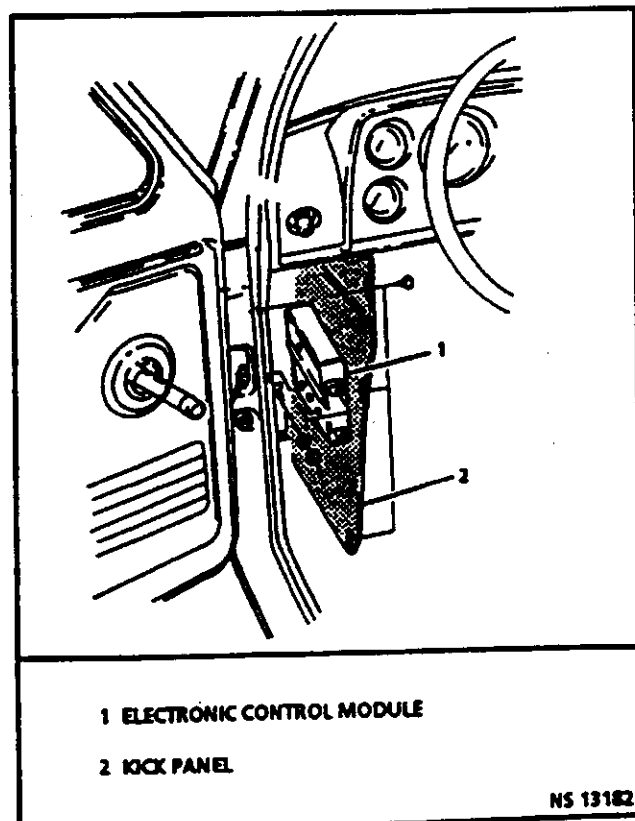

Figure 3.1-2 Electronic Control Module Location View
- Electronic control module from bracket and connectors. (See Figure 3.1-2.)